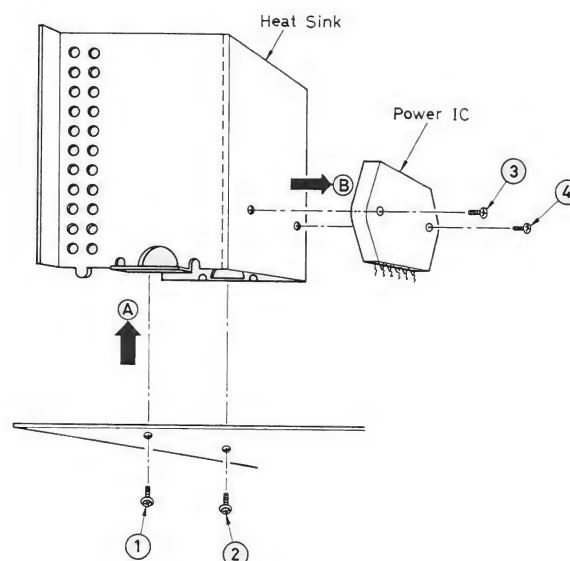

Fig. 4
3. Remove the 2 screws [①, ② in fig. 4] holding the heat sink.
4. Lift the heat-sink upward [fig. 4: ➡ ①]
5. Remove the 2 screws [③, ④ in fig. 4] holding the power IC on the heat-sink. The power IC can be removed. [fig. 4: ➡ ②]